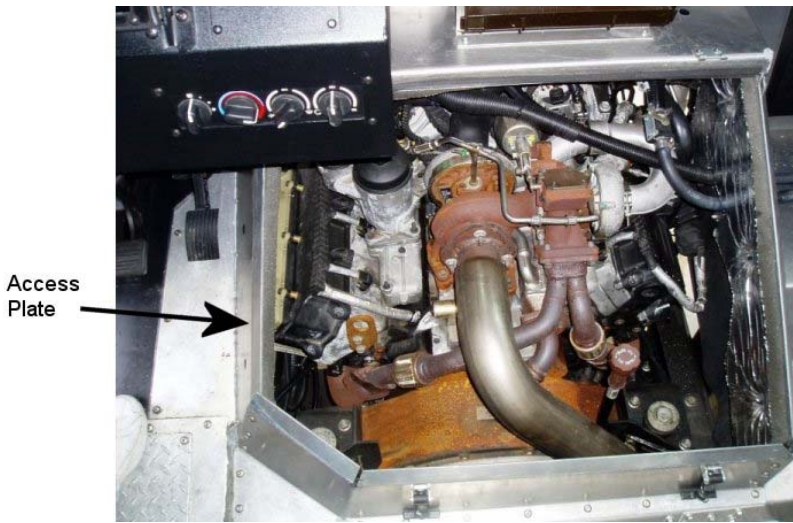

Figure 13 Engine Compartment with Cover Removed
29. Remove access plate on left side of engine cover (Figure 13). (Plate may be held on with rivets that will have to be drilled out.)